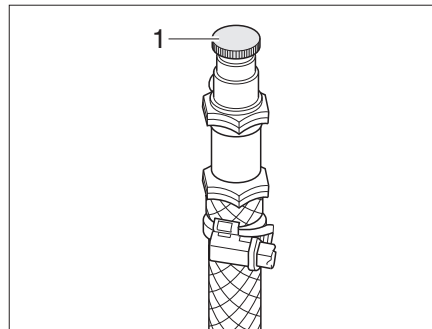

Fig. 364 Bleeding valve of hot-water heater
- Open bleeding valve (Fig. 364,1) and leave open until no more air escapes.